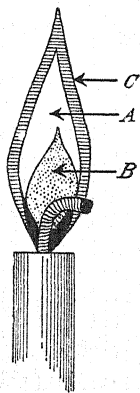

FIG. 176. — Candle flame, showing parts.
**272. The Candle Flame.** The ordinary candle is made of paraffin, stearin, spermaceti, or other wax or fat. These substances all contain carbon and hydrogen. When they are heated, they melt, and the melted wax rises by capillarity to the end of the wick where it vaporizes and burns. Figure 176 shows that the flame has three distinct cones. Surrounding the wick is a cone of unburned gases. In the middle cone, the gases become hot enough to decompose some of the hy-